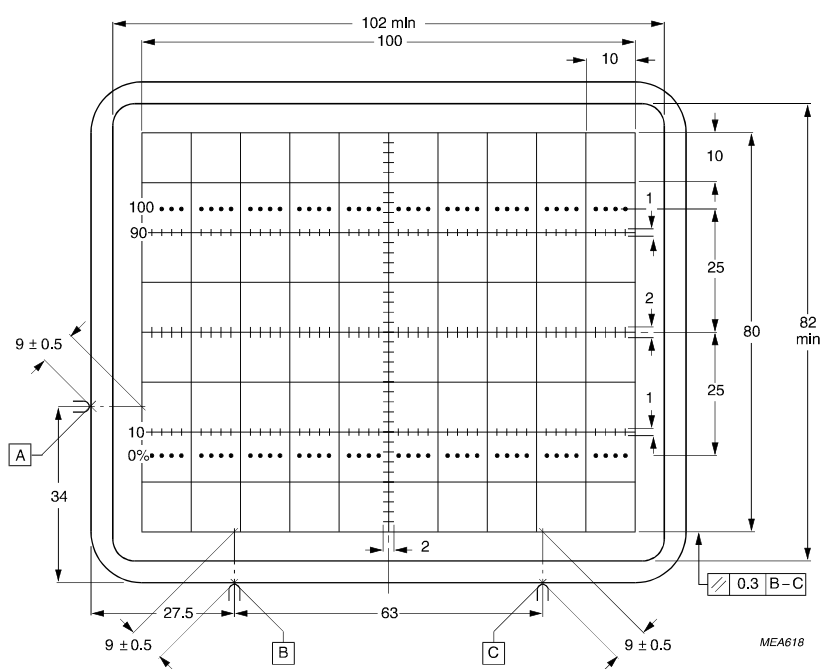

Fig 4. Front view of tube with internal graticule, type 123.
Internal graticule	type 123 (see Fig.4)
The tube can be mounted in any position. It must not be supported by the socket and not by the base region alone. The reference points on adjoining edges of the faceplate (see Fig.4) enable the tube to be positioned accurately in the front panel, for optimum alignment of the internal graticule.
(1) Dimensions of faceplate only. The complete assembly of faceplate and cone (frit seal included) will pass through an opening of 122 mm x 102 mm (diagonal 153 mm).
(2) The coil is fixed to the envelope with resin.
(3) The length of the rotation coil connecting leads is minimum 350 mm.
(4) Reference points on faceplate for graticule alignment (see Fig.4)
(5) The centre of the final accelerator contact is situated within a square of 10 mm x 10 mm around the indicated position.
1. Because the frit seal is visible through the faceplate, and is not necessarily aligned with the internal graticule, application of an external passe-partout with an open area of max. 102 mm x 82 mm is recommended. The internal graticule is aligned with the faceplate by using the faceplate reference points (see Fig.4).